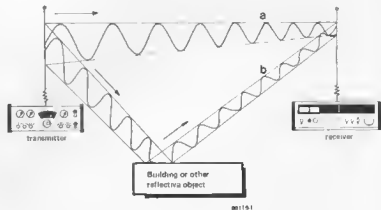
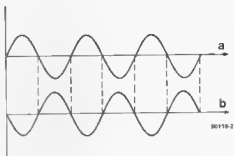
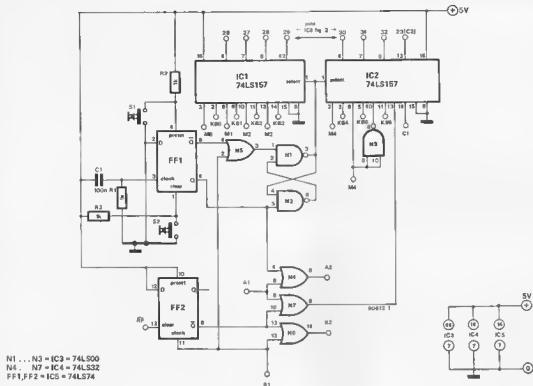

Figure 1. Multipath distortion is caused when the transmitted signal reaches the receiver via two (or more) paths of different lengths.
Figure 2. The direct (a) and reflected (b) signals may often be in exact antiphase when they reach the receiver aerial and cancel each other completely.
Figure 1. The complete extension circuit.
Multipath distortion occurs when the signal of a transmitter reaches the receiver along more than one 'path'. Figure 1 illustrates this. If the difference in distance between two of those signals is equal to an odd number of half wave lengths, then these are out of phase relative to each other. This is the case in figure 2 where the direct (a) and the reflected (b) signals of figure 1 have been drawn. If they are both equal in strength, then one cancels the other. This is an extreme case and it does not occur that often. There is usually a difference in amplitude between a direct and a reflected signal and, often, more than one reflected signal reaches the receiver. On the other hand, the signals add when the difference in distance corresponds to an even number of half wave lengths. Let us now consider the complete music or speech modulated transmission signal. It will be seen that things are quite different. After modulation there are a large number of signals of various frequencies and the chances are that one or more frequencies will occur in the total spec-
When the start button, S1 of figure 1, is depressed, the  $\bar{Q}$  output of FF1 goes low. As the Q output of FF1 is high, the memory WRITE signal is inhibited by N4. When one of the keys on the ASCII keyboard is depressed, preferably the space key or a control key, a strobe pulse (KS) will be generated. The leading edge of the strobe pulse will cause the data from the keyboard to be entered into the UART in parallel. With switch S1 in figure 2 closed, this information will be passed out of the transmitter section of the UART and back into the receiver section in series. Once a complete character has been transferred in this manner the Data Available (DAV) output, pin 19, of the UART will go high for a short period of time. The trailing edge of this pulse will set the RS flip-flop formed by N1 and N2 which in turn will take the select inputs of the multiplexers high. The memory data, together with the R/W signal, will now be present at the multiplexer outputs. Shortly after the DAV pulse, an R/W pulse is generated which acts as a substitute for the strobe pulse. This means that the data held in memory will be shifted in and out of the UART repeatedly. This information passing out of the UART in series can now be stored on cassette. Since the recorder will have to be running before a key is depressed, the character which starts the cycle will also be recorded. This is why it is advisable to use the space key or a control key, as these will have very little effect on the actual display.
4. Connect points A1, A2, B1, B2, C1 and C2 of figure 1 to the corresponding points in figure 2.
5. Connect pin 27 of IC10 (RP) in figure 2 to the point marked RP in figure 1.
in figure 1:	in figure 2:
7. Disconnect points KB0...KB6 between the keyboard and IC8 in figure 2 and re-connect as follows:
8. Finally, connect the outputs of the two multiplexers in figure 1 to the UART (IC8) in figure 2 as follows:
As can be seen from figure 1, the actual melody generator is a single IC (IC4). It is the AY-3-1350 from General Instrument Microelectronics, a company with an excellent name for solid state musical devices. The circuitry around IC4 generates the clock signal, selects the melody required and amplifies the output level.
If the circuit is constructed exactly as shown in figure 1 and wire links are placed between points K...N and R...V (see figure 2a), the following procedure will take place.